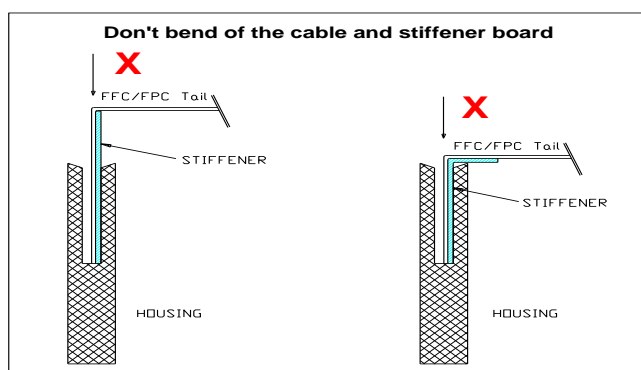

FIGURE 6-2
- Please Do Not bend the tail, as Figure 6-2
不可折傷 TAIL，如 Figure 6-2 所示